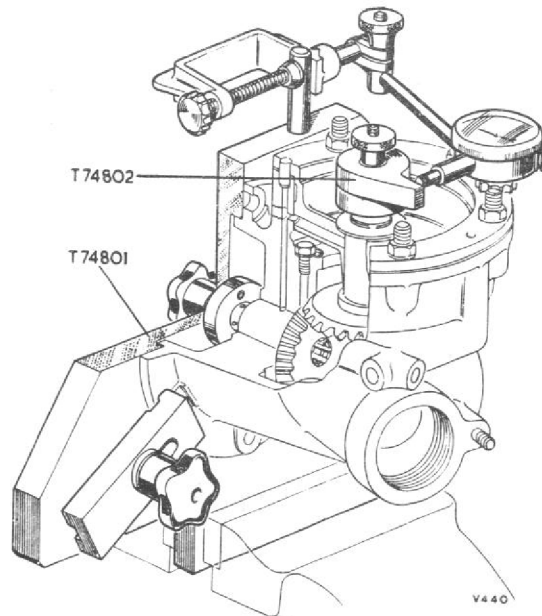

Fig. 11. Checking the backlash of the compressor drive gears
- (3) Assemble the adapter housing (63) to the compressor housing (9) locating on the dowel.
- (4) Secure the adapter to the compressor housing with six slave washers and nuts.
- (5) Unscrew the hand-nut of the vertical gear locking fixture on vice block T74802 (fig. 11); insert the gear locking fixture into the bore of the vertical gear and tighten the hand-nuts to secure the vice block to the base of the compressor drive housing by the two slotted clamping blocks.
- (6) Tighten the hand-nut of the locking fixture, thus locking the vertical gear with the end float taken up.
- (7) Insert backlash checking tool T74802 in the bore of the horizontal gear and tighten the knurled nut.
- (8) Clamp a dial test indicator to the post provided on the vice block and locate the stylus on the line marked on the flag of the backlash tool (fig. 11).
- (9) Check that the backlash is within the limits.
- (10) Remove the dial test indicator and backlash checking tool.
- (11) Remove the adapter and drive and check the blueing marks on the gear teeth; if satisfactory, clean off the marking blue.